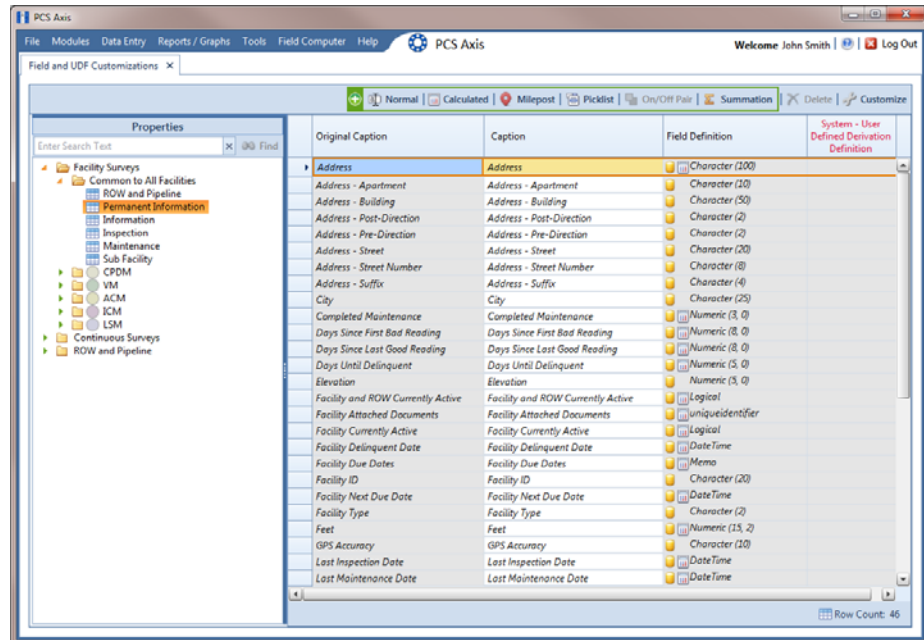

Figure 3-57. Field and UDF Customizations
- 3 Double-click **Facility Surveys > Common to All Facilities** in the *Properties* panel. Then click **Permanent Information** to display a grid with fields and property settings common to all facilities (Figure 3-57).
- Double-click **Facility Surveys > Common to All Facilities** in the *Properties* panel. Then click **Permanent Information** to display a grid with fields and property settings common to all facilities (Figure 3-57, page 105).